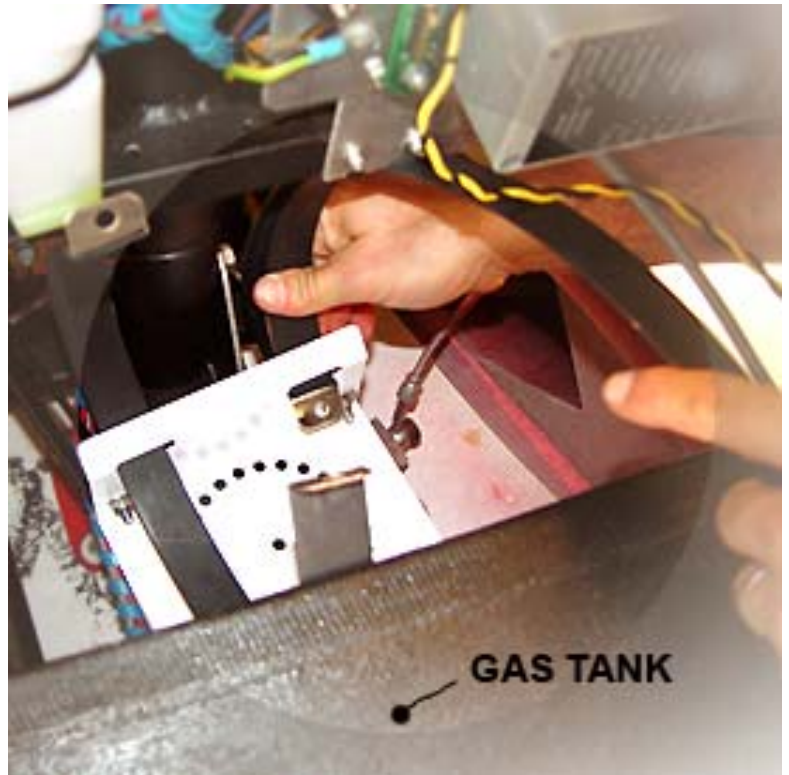

Figure 3-7
- 3.6 Slide the Stainless Steel Band through the open holes of the BRS Modular Mount, as shown in Figure 3-7.